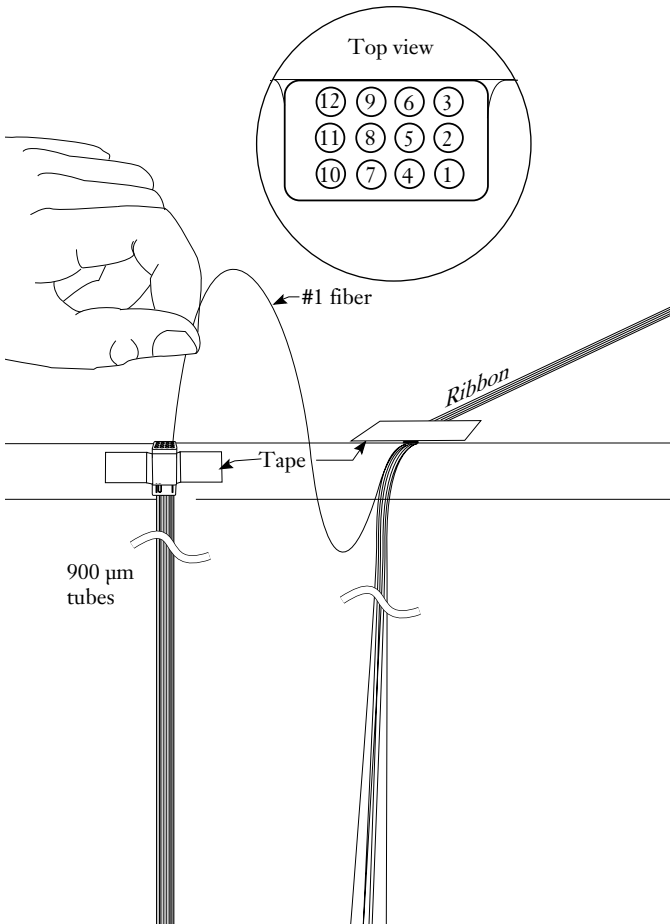

Figure 16
7.2 Approximately 2 inches (5 cm) off to either side of the ribbon, use strapping tape to tape the plastic section of the 900 μm assembly to the table's edge as shown in Figure 16.
7.3 Starting at one side of the 900 μm unit, carefully thread the #1 fiber (blue) into the blue 900 μm tube end (Figure 16).
7.4 Repeat step 7.3 for the remaining fibers in sequential fiber order (i.e., blue, orange, green, brown, etc.). Work the threading process across the 900 μm tube assembly in the proper order (see Figure 16)